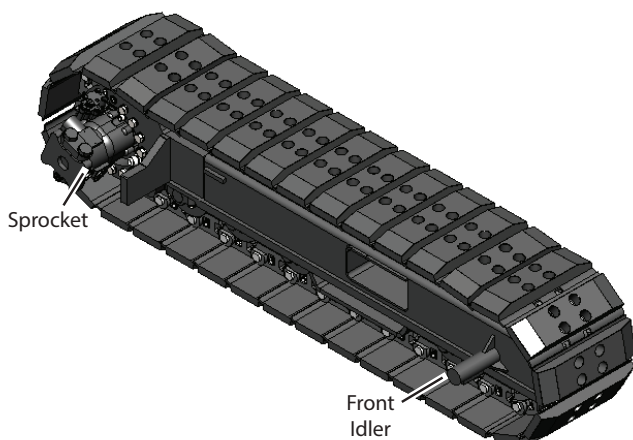

Figure 5-27. Front Idler
Follow this procedure for replacing the front idler (Figure 5-27):
1. Follow Steps 1-4 in the previous section. The track tension cylinder is located behind the front idler. (Figure 5-27)
5. Lower sprocket back down toward the track chain, ensuring the sprocket is about one (1) inch (2.54 cm) from the chain.
6. Remove bolts holding sprocket. **(Figure 5-27)**
6. Remove the two (2) bolts holding the drive motor to the torque hub. **(Figure 5-27)** Support the undercarriage with a forklift or jack before lowering to the ground.
7. Unbolt the two (2) trunnions on the front of track undercarriage and stops at each side of the rear of the undercarriage.